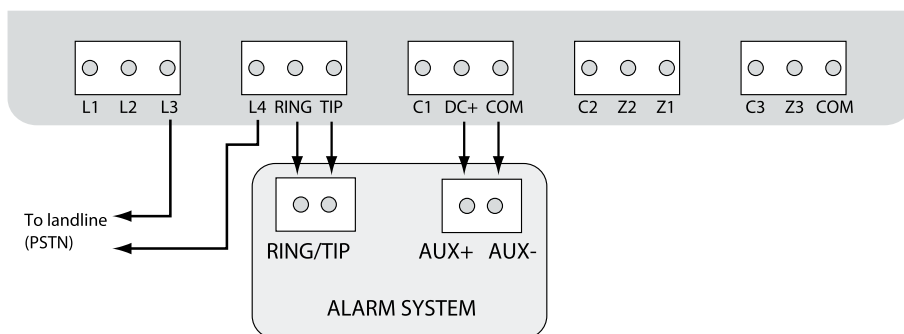

Figure 9
1. Connect the circuit as indicated in Figure 9 – connect telephone contacts of the alarm system RING/TIP to RING/TIP contacts of communicator.